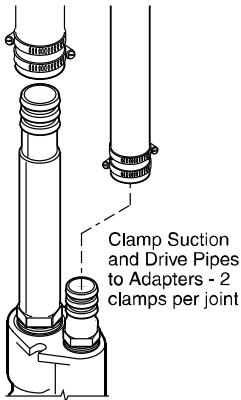

Figure 8
2. Connect the plastic pipes to the adapters with hose clamps (See Figure 8); use two clamps per joint. Put the tightening screws on opposite sides of the pipe as shown.